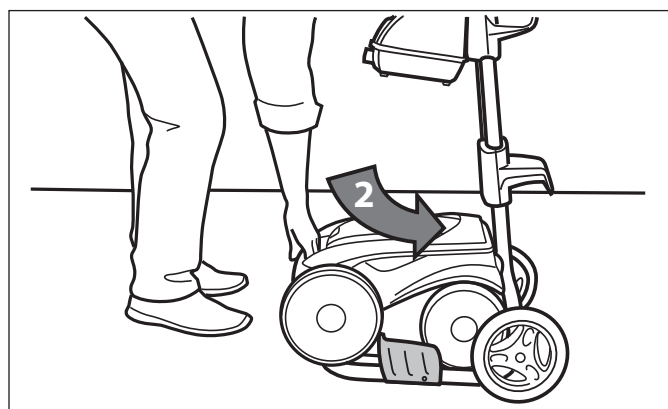

Figure 26. Roll Cleaner onto Place on the Caddy
2. Roll the unit into place onto the caddy. Refer to Figure 26.